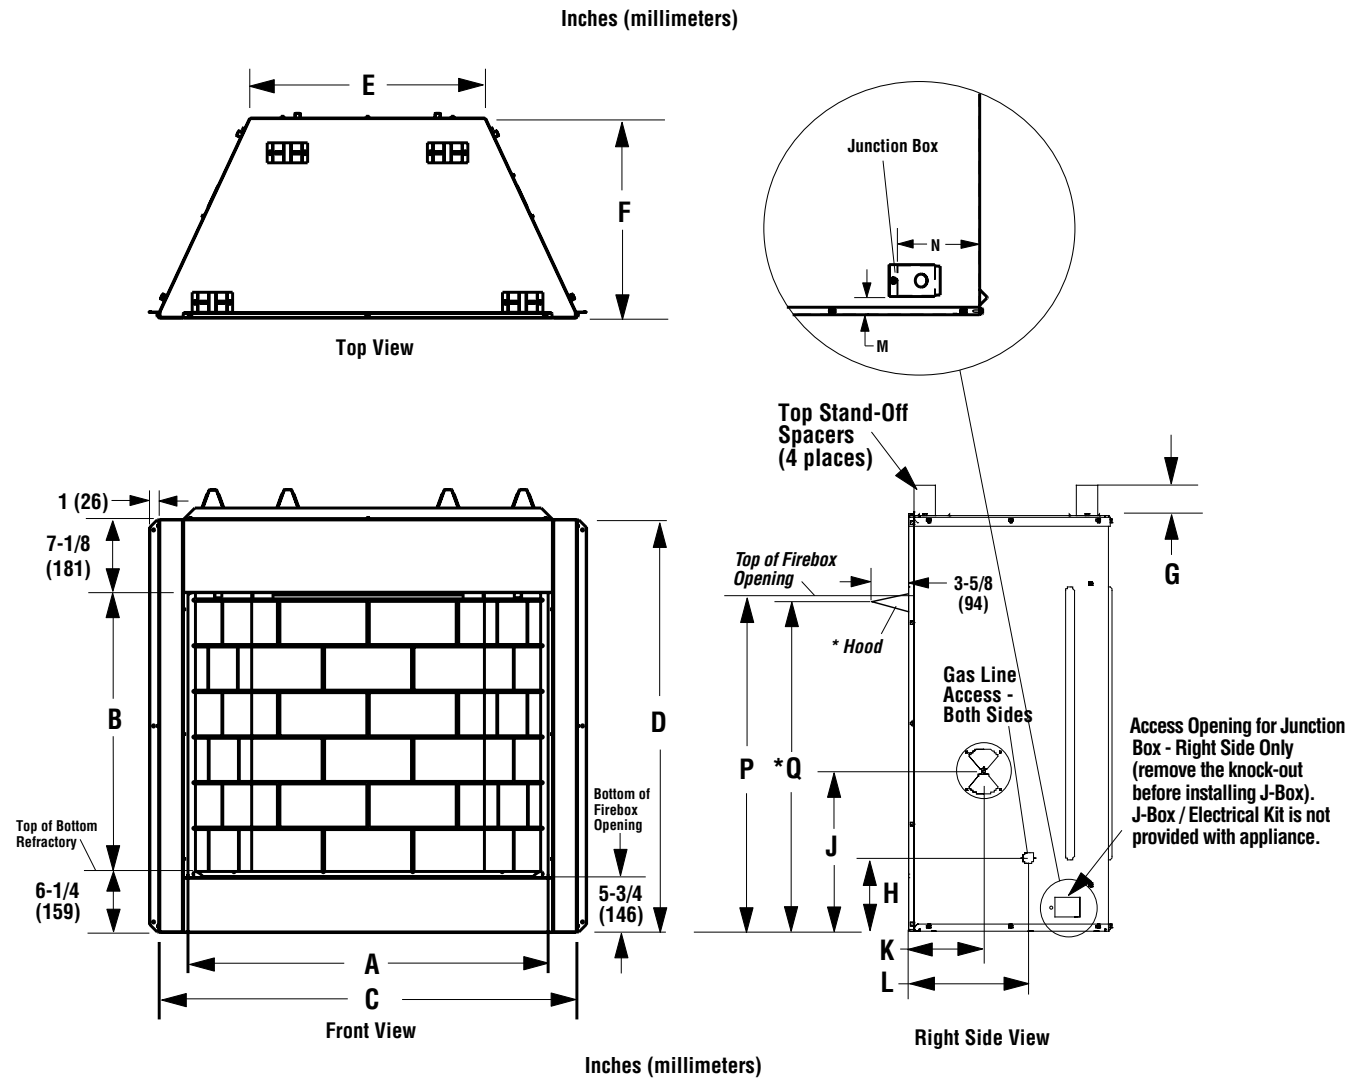

Figure 7
Remove the gas line access cover plate on either the left or right side of the fireplace (see **Figure 7** showing locations).
Construct firebox framing following **Figures 8 through 10** and **Table 1** on **Page 11** for your specific installation requirements. Refer to **Figure 7** on **Page 10** for firebox dimensions.
**Under no circumstances shall the firebox top spacers be removed or modified (see Figure 7). The header may be in direct contact with the top spacers but must not be supported by them, notched or altered to fit around them.**
**Step 2.** Remove the rectangular knock-out (for J-Box) on the right side of unit (see *Figure 7* for location). Install the Junction Box & Electrical outlet below the firebox floor into the rectangular opening on the right side cabinet panel where you removed the knock-out (see *Figures 18 and 19*).